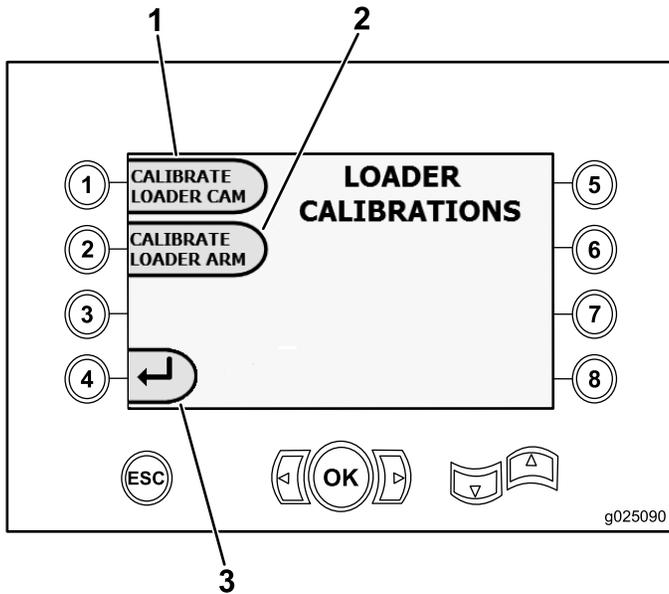

Figure 17
- Push button 1 to calibrate the loader cam (Figure 17)
- Push button 2 to calibrate the loader arm (Figure 17)